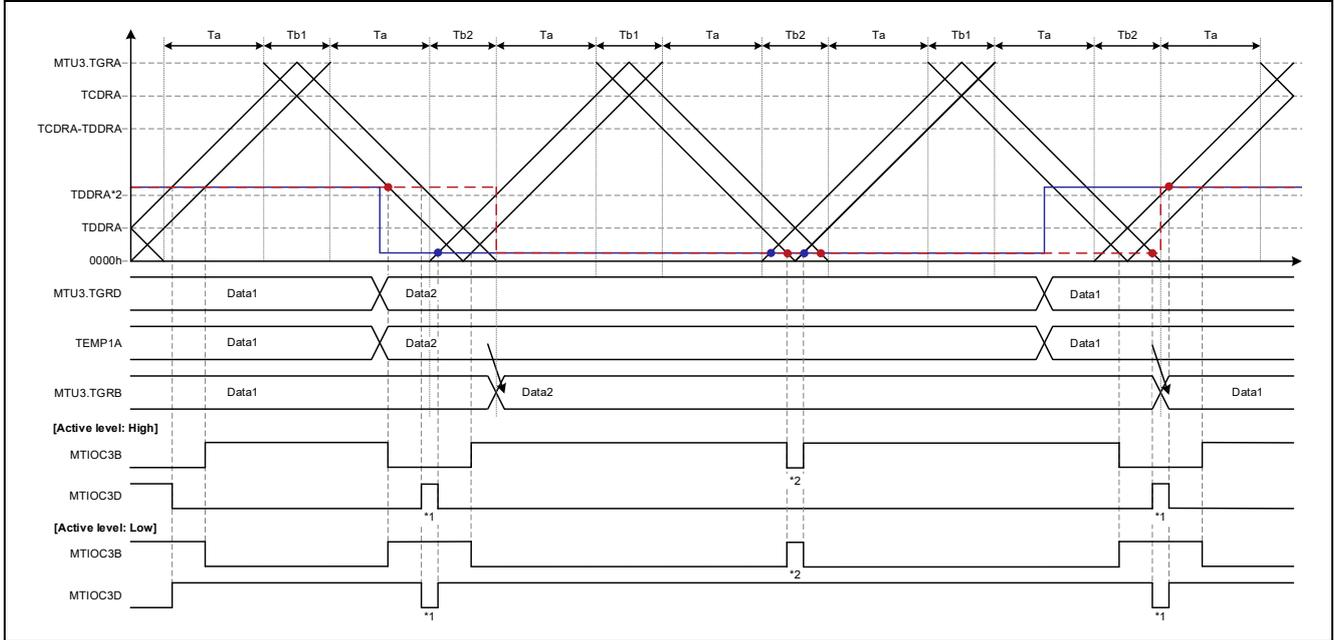

Figure 1.23 Complementary PWM Mode 2 Operation Example (Output Start: Trough, Overwrite in Ta Interval, Duty: D → A → D)
| 1.3.1.1 | Change from Near 100% to Near 100% (D → A → D) | Figure 1.22 Figure 1.23 | *1, *2 | Figure 1.24 Figure 1.25 | *1, *2 |
- [Operation example 2] Figure 1.23, Complementary PWM Mode 2, Output Start: Trough, Ta Interval Overwrite, cautions 1 and 2
Figure 1.23 shows an operation example of buffer overwrite in the Ta interval in complementary PWM mode 2. Except for the difference in the buffer overwrite timing, the operation is the same as that shown in Figure 1.22.